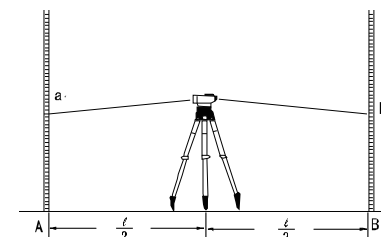

Fig.12
- (1)Set the instrument halfway between A and B, staff A and B shall be 30~40M away, the readings are a1,b1(Fig.12)